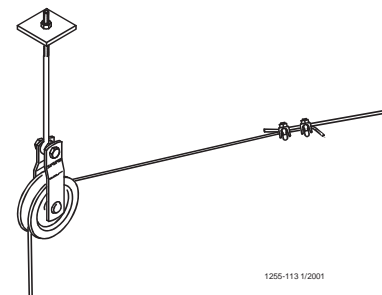
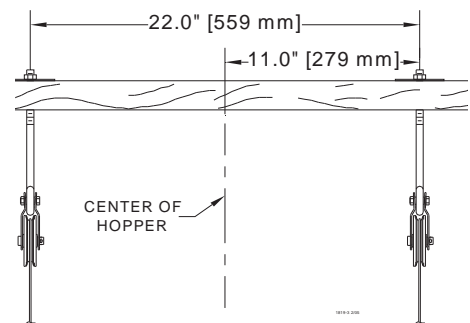

Figure 8. Steel Hopper Suspension
Figure 9. Plastic Hopper Suspension
•Feed Hopper Locations: **When steel hoppers with center suspension are used, see figure 8, the feeder line must be supported within 1' [30 cm] of the feed hopper.** When plastic hoppers are installed only 2 point suspension can be used, see figure 9, this does not require additional supports. See page 14 for plastic hopper suspension. This is in addition to the required Feeder Hopper suspension. After determining the type of suspension system required, decide where the Feeder Line is to be installed. Mark a straight line on the ceiling or rafters the full length of the Feeder Line. Use a string, chalk line, or the winch cable, temporarily attached with staples, to mark the line. Center the line directly over where the Feeder Line is to be installed.